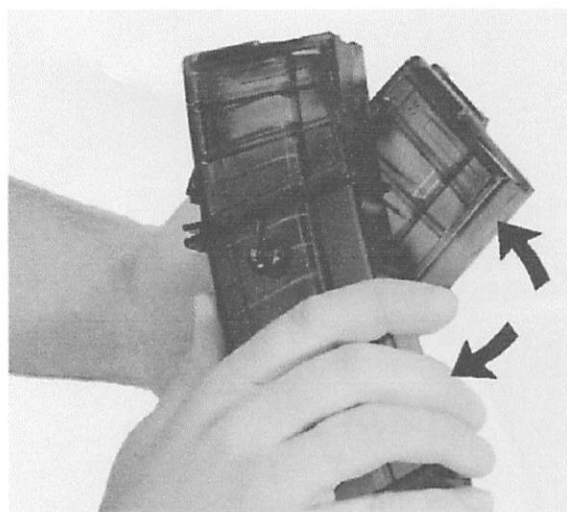

Fig. 19 Coupling of magazines
- ⇒ Introduce the upper coupling studs of the first magazine into the upper lugs of the second magazine (Fig. 19).